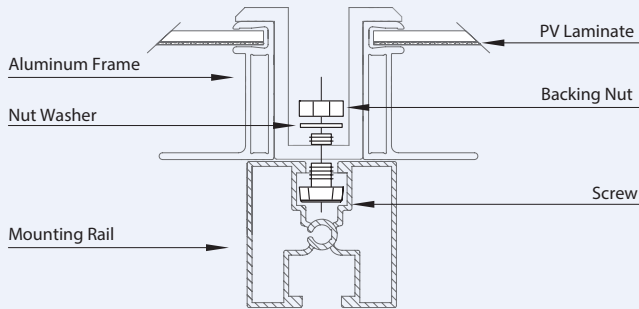

Figure 13: Detail of a top-down clamp mounting attachment
- Third-party clamps that have been designed for PV mounting structures are an approved mounting attachment method for Solar PV modules. Modules must be fastened using clamps applied to the top side of the long frame parts (Fig. 13). A clamp holds two modules except for the clamps at the beginning and end of a module row. The centerline of the clamps must be in line with the mounting hole positions plus or minus a distance of 50mm. The module clamps should not contact with the front glass and deform the frame and avoid shadowing from the module clamps. The applied torque value should be big enough to hold the modules steadily. The torque of screw tightening should be between 16 N·m to 24 N·m.